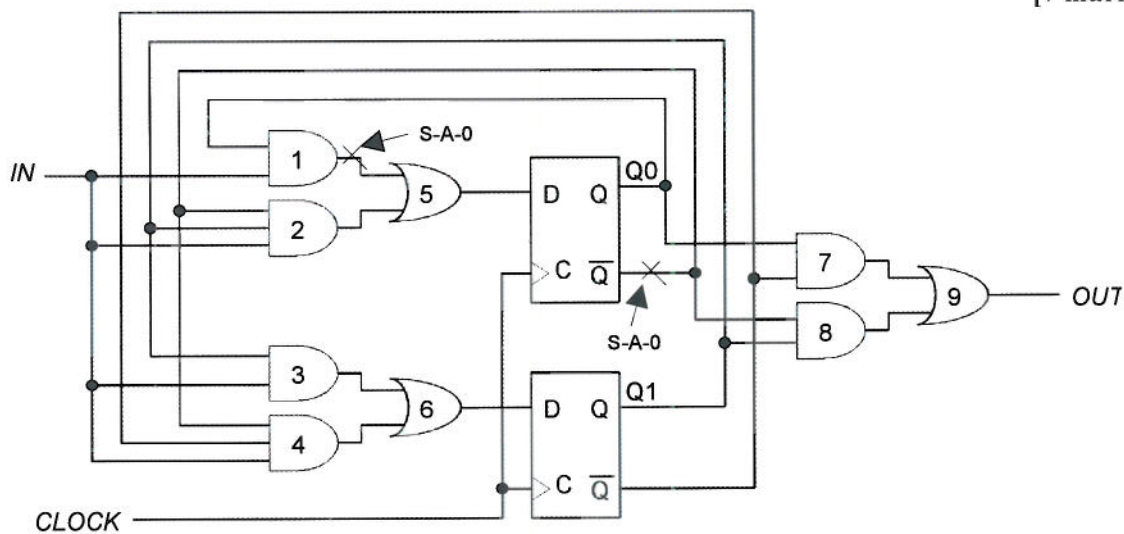

Figure 5.1
5. a) Figure 5.1 shows the gate level circuit diagram for a four-state sequential circuit with one primary input  $IN$  and one observable primary output  $OUT$ . Find a sequence of inputs that will detect a stuck-at-0 (S-A-0) fault on the  $\bar{Q}$  output of the upper flip-flop. Assume the existence of a master reset, which initially resets all D flip-flops to 0.